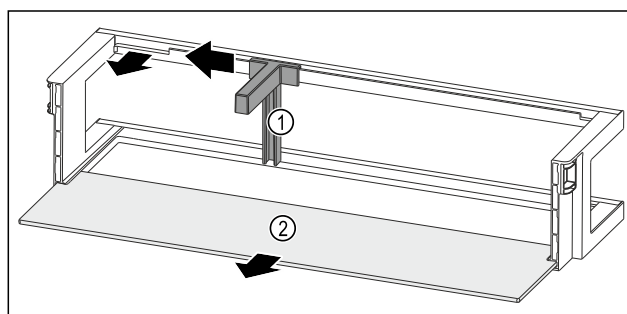

Fig. 132 Door rack with bottle holder and shelf
- ▶ Slide the bottle holder Fig. 132 (1) to the side as far as the recess.
- ▶ Remove the bottle holder Fig. 132 (1).
- ▶ Remove the shelf Fig. 132 (2).